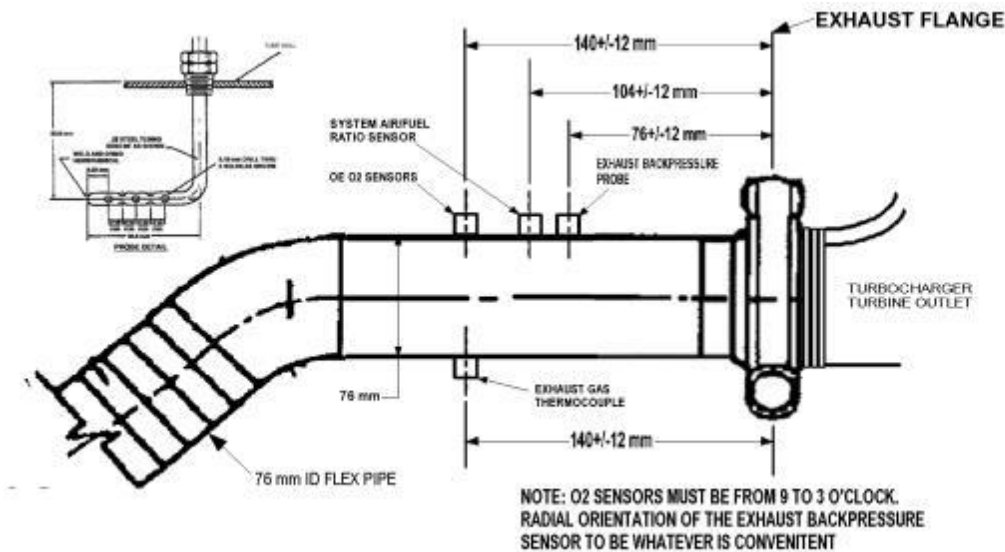

Figure 9: Exhaust Measurements and Instrumentation
- **Exhaust:** Figure 9 illustrates how the exhaust is instrumented.